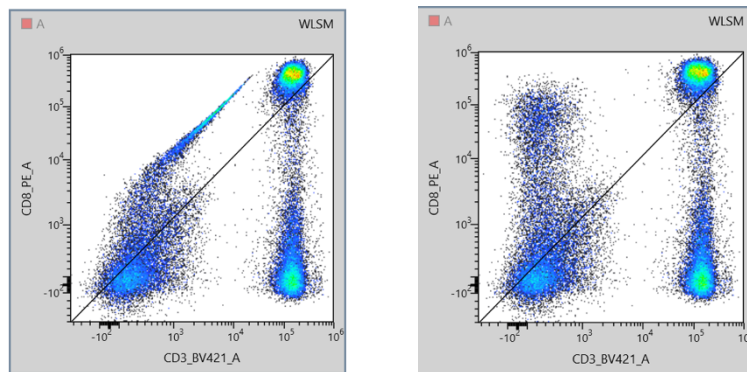

Figure 1: "Banana-shape" to the left and correct unmixed populations to the right
19. Start with the worst plot → Adjust the unmixing by dragging until the banana shapes are gone (figure 1). Adjusting the worst plot can sometimes fix issues in other plots.